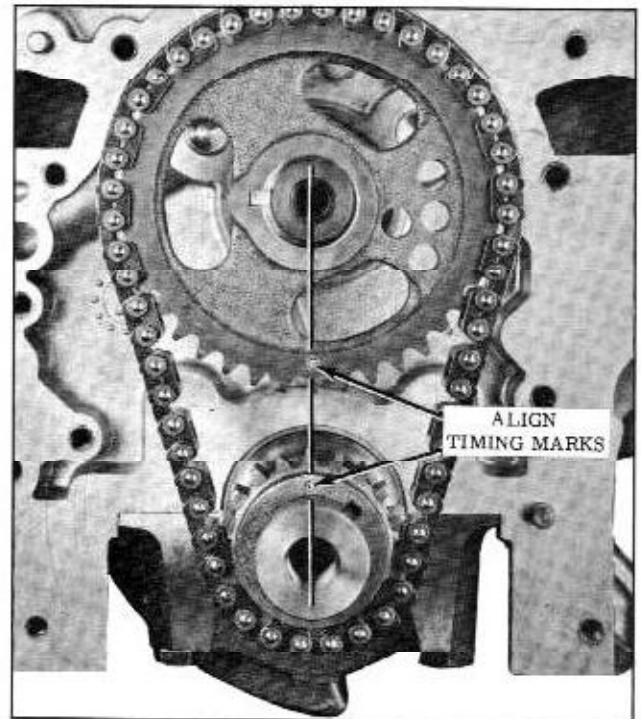

Fig. 8-41 Timing Gear Positions
1. Install cam shaft gear, crankshaft gear, and timing chain together to align timing marks. (Fig. 8-41)